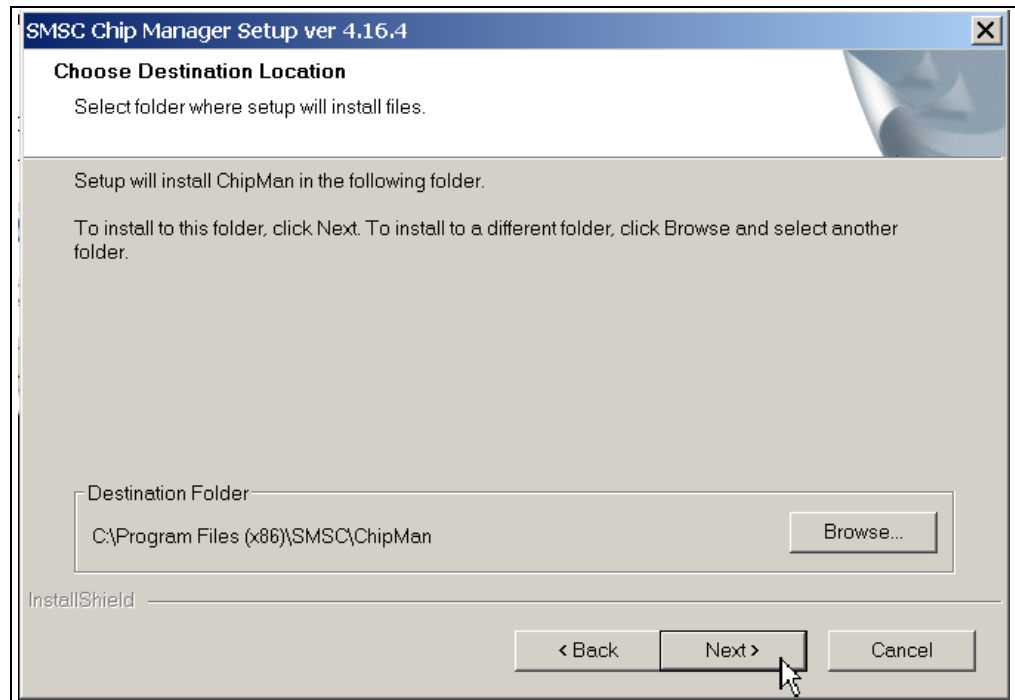
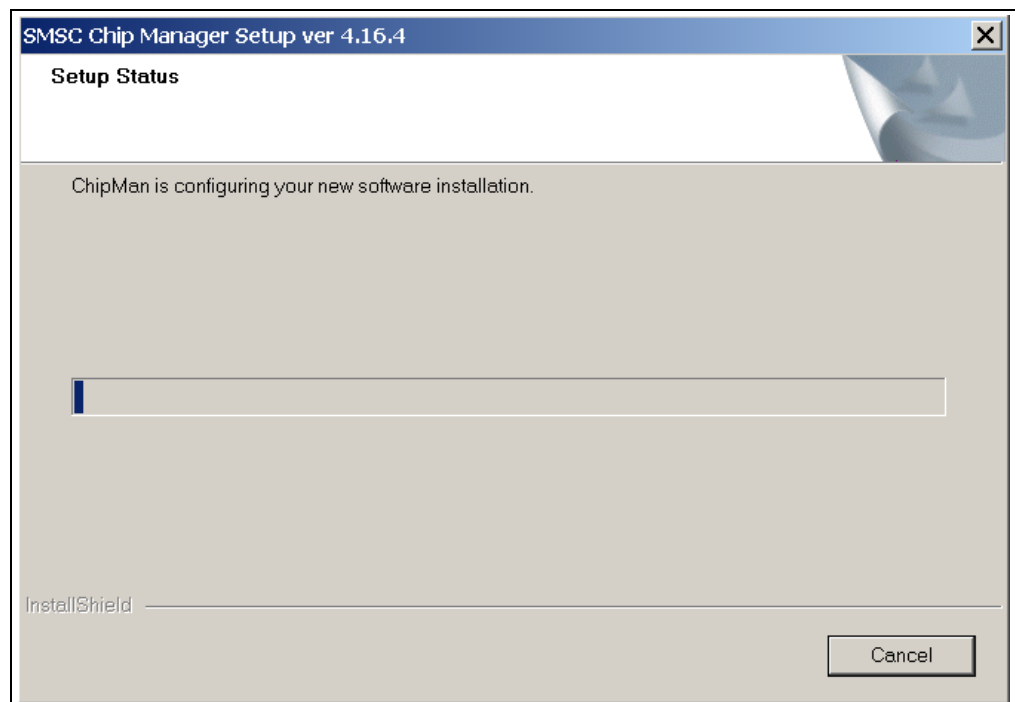

FIGURE 2-4: *Destination Path Dialog.*
FIGURE 2-5: *Setup Progress Window.*
7. On the Choose Destination Location dialog, browse for the desired location, or click **Next** to install in the default location (see Figure 2-4). The application setup window appears, showing the installation progress (see Figure 2-5).